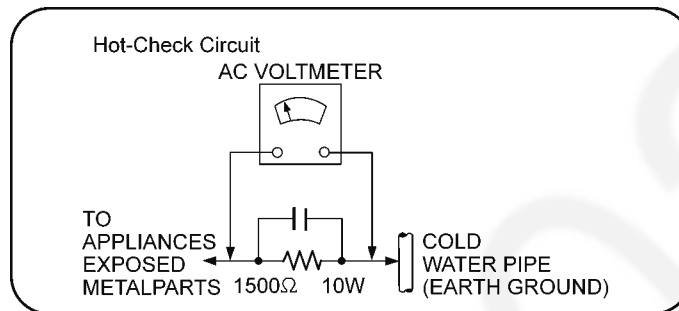

Figure 1-1
2. Connect a 1.5k $\Omega$ , 10 watts resistor, in parallel with a 0.15 $\mu$ F capacitors, between each exposed metallic part on the set and a good earth ground such as a water pipe, as shown in Figure 1-1.